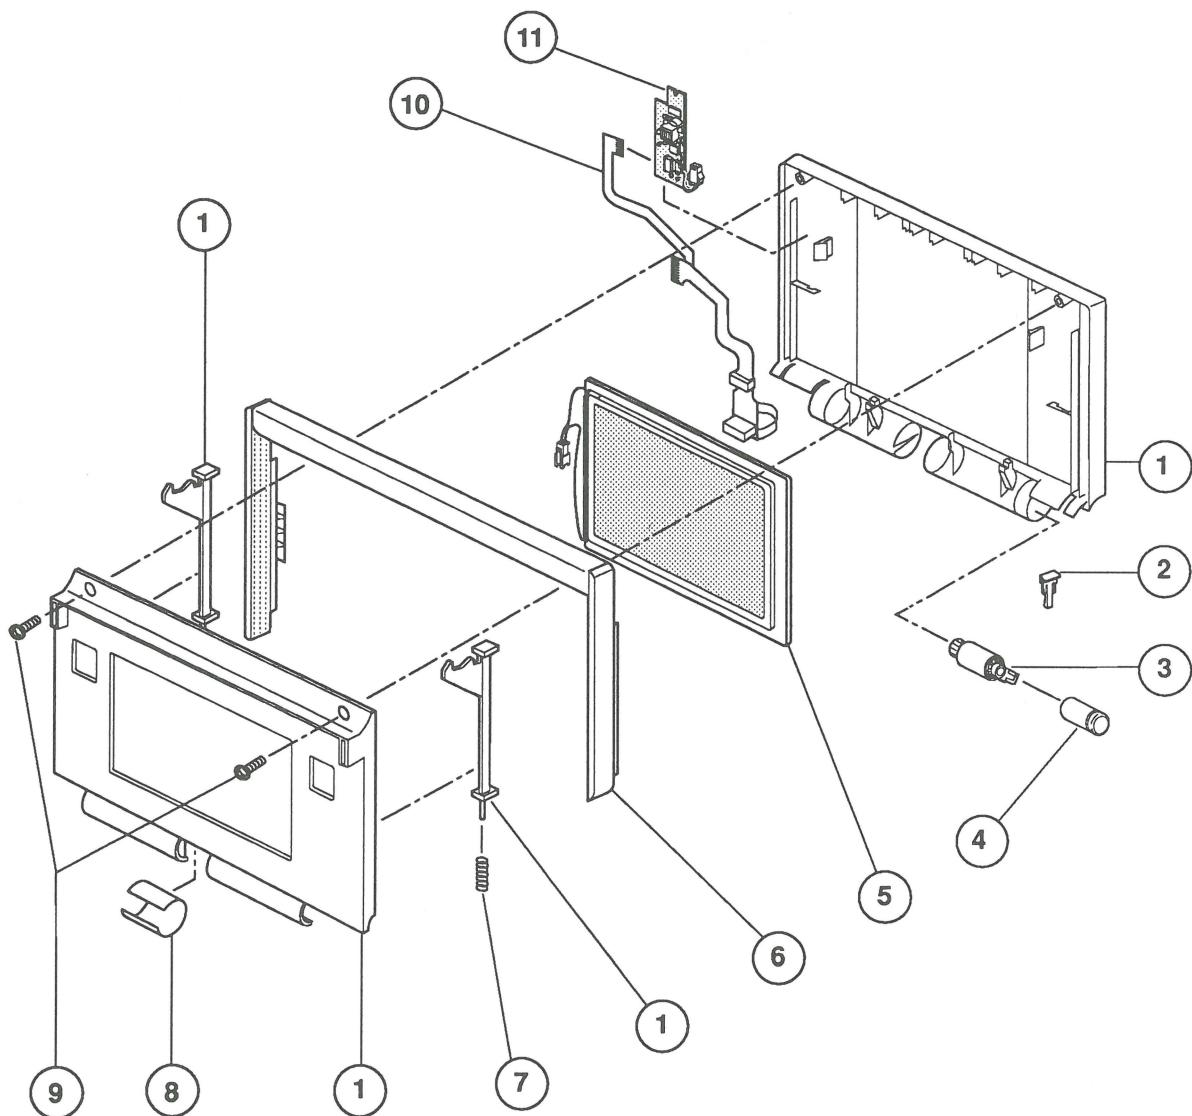

FIGURE 3
- IPL.7 Backlit Display Assembly (Figure 3)
BACKLIT DISPLAY ASSEMBLY (Figure 3)